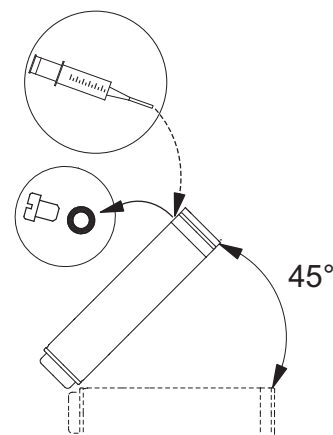

Fig. 3 Motor position during filling – MS6 and MS 6000
- If the motor is delivered from stock, the liquid level must be checked before the motor is fitted to the pump, see fig. 3.
- In the case of service, the liquid level must be checked, see fig. 3.
1. Position the submersible pump as shown in fig. 3. The filling screw must be at the highest point of the motor.
3. Inject liquid into the motor with the filling syringe, fig. 3, until the liquid runs back out of the filling hole.